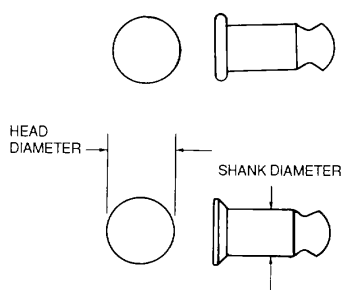

Figure 2-54. Hi-Shear Rivets
*h. Hi-Shear Rivets.* Hi-shear (pin) rivets, as shown in figure 2-54, are essentially threadless bolts which are inserted like rivets. Each rivet consists of two parts a stud and a collar. The stud is made of 4130 alloy steel, or equivalent, heat-treated to 125,000 to 150,000 psi, and cadmium-plated. The collar is anodized 2117-T4 aluminum alloy. The installed rivet can be readily identified by the presence of the attached collar rather than the ordinary formed head of the standard rivets. Use Hi-shear rivets in shear applications only. As the shear strength of the steel is considerably greater than either the shear bearing strength of aluminum alloys, these special rivets are used to advantage only in the thicker sheet gauges. Never use Hi-shear rivets where the grip length is less than the shank diameter (3/16-inch for smallest available rivet). Use the 100-degree countersunk type where flush surfaces are desired. Hi-shear rivets may be replaced with close tolerance bolts of the same material, strength and diameter, where absolutely necessary. Use flush-headed bolts for flush-headed rivets and protruding head bolts for protruding head rivets. The bolt thread must not extend into the material.